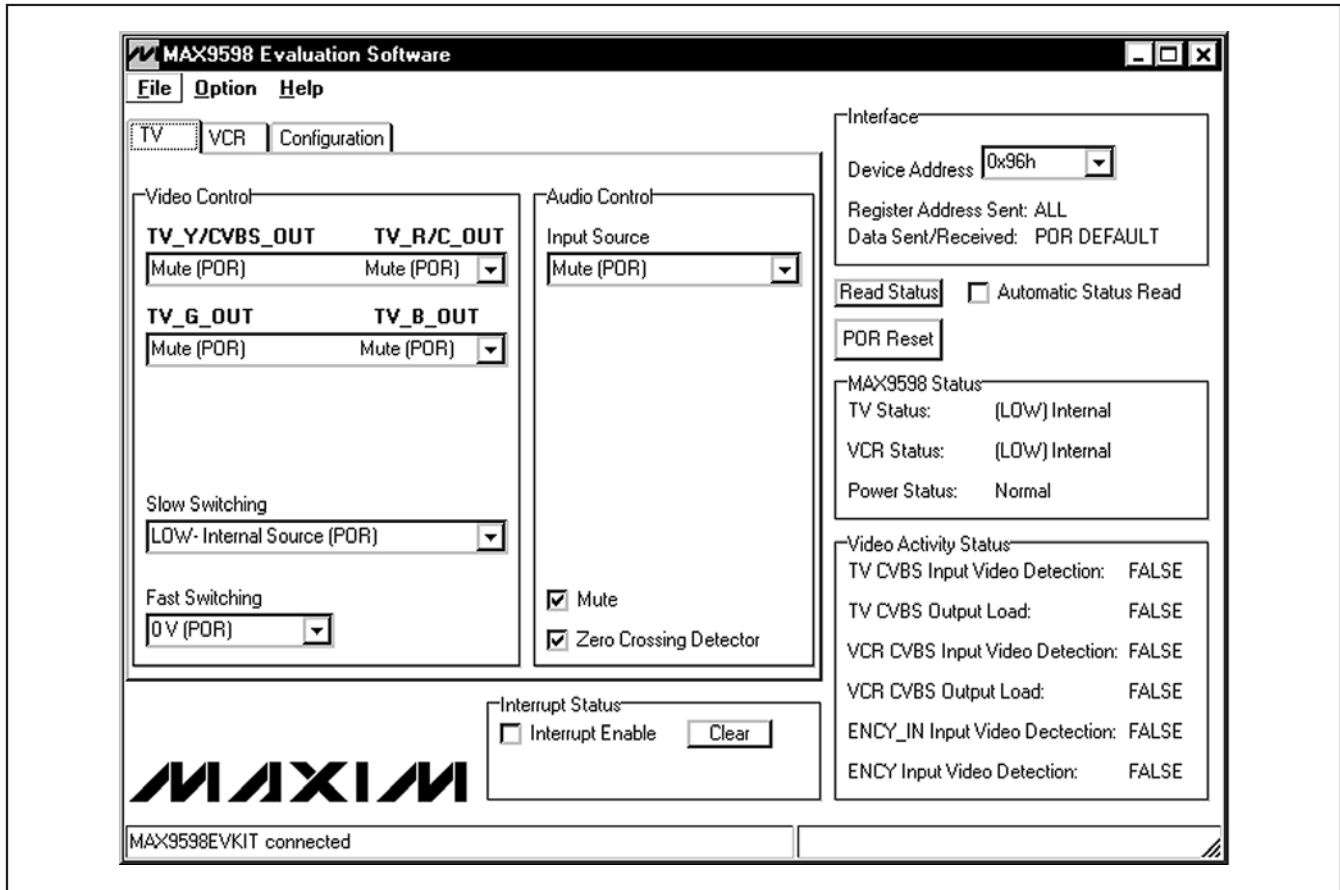

Figure 1. MAX9598 EV Kit Software Main Window (TV Control Tab)
- 16) Start the EV kit software by opening its icon in the **Start | Programs** menu. The EV kit software main window appears, as shown in Figure 1. Observe as the program automatically detects the address of the MAX9598 and starts the main program.
The user interface (Figure 1) is easy to operate. Use the mouse, or press the tab key to navigate with the arrow keys. Each of the buttons correspond to bits in the command and configuration bytes. By pressing them, the correct I²C-compatible write operation is generated to update the internal registers of the MAX9598. The **Interface** group box indicates the current I²C-compatible **Device Address**, **Register Address Sent**, and the **Data Sent/Received** for the last read/write operation. This data is used to confirm proper device operation.
The **Video Control** group box of the MAX9598 EV kit software (Figure 1) allows the user to reroute selected signals to the TV SCART connector. Other functions, such as **Fast Switching** and **Slow Switching**, can also be changed through the **Video Control** group box. Manipulate the drop-down lists to achieve the desired result.